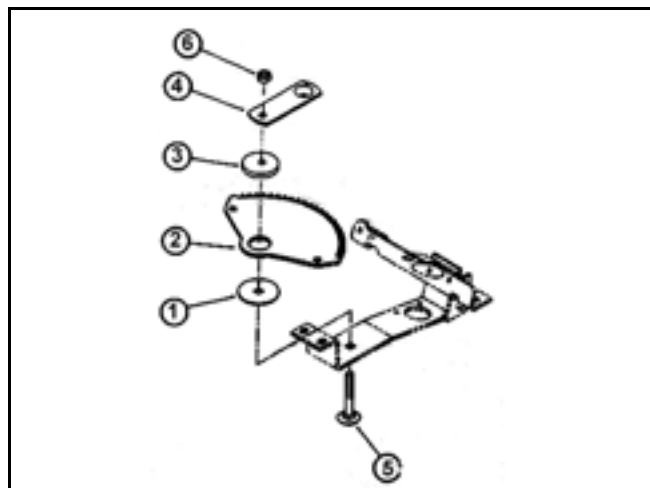

Figure 38
3. Remove the cam bushing, 3, and the sector gear, 2, from the mounting bracket (Figure 38).
1. Install the bearing washer, 1, on the mounting bracket (Figure 38).
2. Place the sector gear, 2, on top of the bearing washer with the teeth facing the rear of the tractor (Figure 38).
4. Insert the cam bushing, 3, into the bore of the sector gear (Figure 38).
5. Place the locking plate, 4, on the cam bushing (Figure 38).
6. From the bottom, insert the carriage bolt, 5, through the bearing washer, cam bushing, and the locking plate. Secure the bolt with the locknut, 6 (Figure 38).